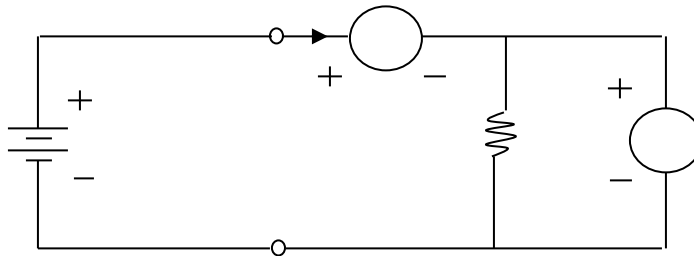

Figure 5 - 1
2. Connect the circuit in Figure 5 -1 and measure the current for each value of V_s in Table 5 -1. Record these measured currents in Table 5 -1.